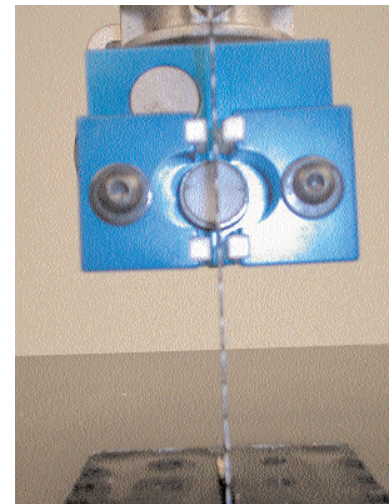

Fig. 7
8. Adjust the side guide blocks out as far as they will go and clamp finger tight. Make sure that the back blade guide is as far back as it can go and is clamped finger tight. See Fig. 7. This will ensure that the guides will not interfere with the blade while you do the adjustments.